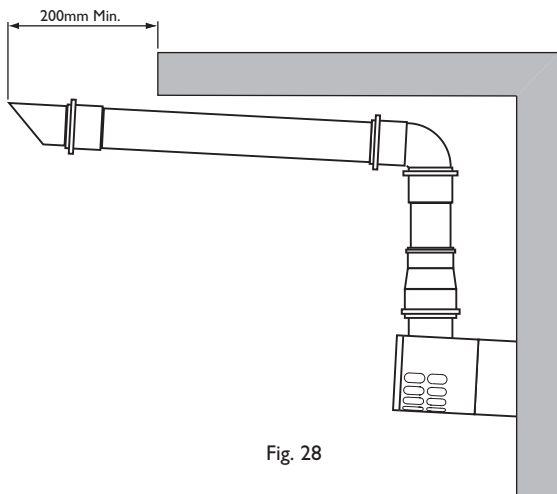

Fig. 28
22. When the plume outlet is positioned under a balcony or other projection (Fig. 28) it must protrude at least 200mm (it is not necessary to extend it further than this).